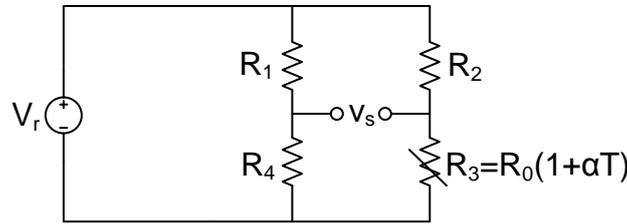
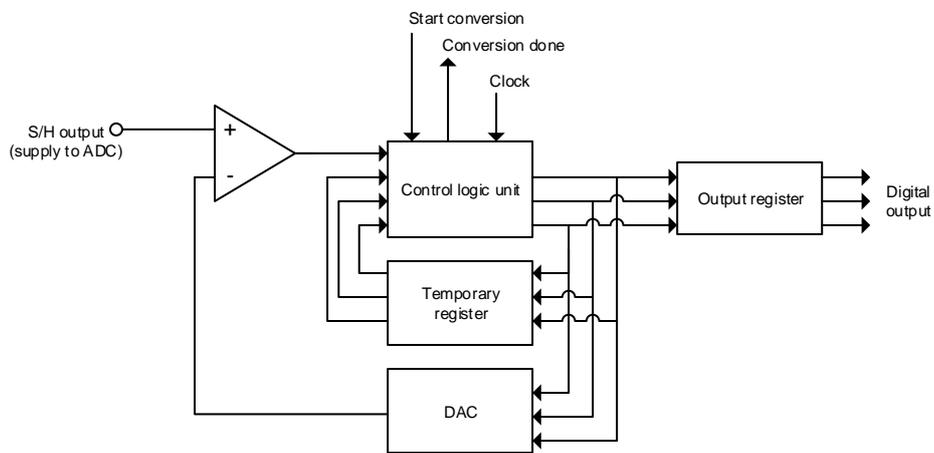

Figure 6: Bridge circuit with a RTD temperature sensor.
Figure 7: Successive approximation AD converter.
A resistive temperature detector (RTD) can be used to measure the temperature of an object. Figure 6 shows a bridge circuit with an RTD which is exposed to a temperature  $T$ . This temperature will be in the range  $[-30^{\circ}\text{C}, 80^{\circ}\text{C}]$ . The RTD is a PT100 sensor with  $R_0 = 100\ \Omega$  and  $\alpha = 0.004/^{\circ}\text{C}$  at  $0^{\circ}\text{C}$ .
- (6p) (e) The output voltage  $v_s$  of the bridge circuit shown in Figure 6 can be digitized using a successive approximation AD converter like the one shown schematically in Figure 7. Explain (maximal 500 words) how the successive approximation AD converter works. You may also draw a figure to illustrate its operation.